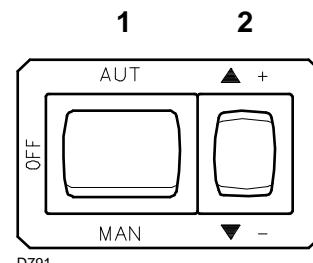
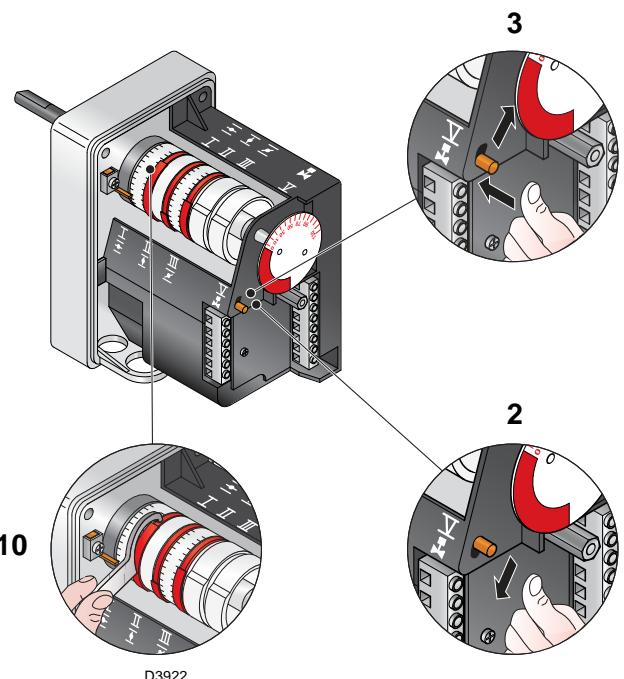

Fig. 27
Fig. 29
Close the thermostats/pressure switches and turn the switch of Fig. 27 to position "MAN".
Now press the button 2)(Fig. 27) "output increase", and keep it pressed until the servomotor has opened the air damper and the gas butterfly valve.
Press the button 2)(Fig. 27) "output reduction", and keep it pressed until the servomotor has closed the air damper and the gas butterfly valve at 65° (adjustment made in the factory).
- If it is necessary to reduce it, reduce slightly the angle of cam III (Fig. 29) with small, regular movements, i.e. bring it from an angle of 65° to 63° - 61°....
- If it is necessary to increase it, press slightly the button "output increase" 2)(Fig. 27) (open by 10-15° the gas butterfly valve), increase the cam III angle (Fig. 29) with small, regular movements, i.e. bring it from an angle of 65° a 67° - 69°....
Press slightly the button "output increase" 2)(Fig. 27) so that the servomotor rotates by 15°. Adjust the screws until optimal combustion is obtained. Proceed in the same way with the other screws. Take care that the cam profile variation is progressive.
Switch the burner off with switch 1)(Fig. 27), OFF position. Release cam 4 from the servomotor by pressing and shifting button 3) to the right, and check several times that by rotating cam 4 forwards and backwards by hand, the movement is soft and smooth, without jamming.